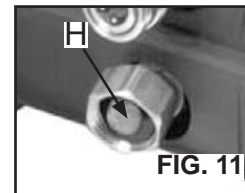

FIG. 11
1. **Remove filter** by grasping end and removing it from water inlet of pump as shown. (Fig. 11)